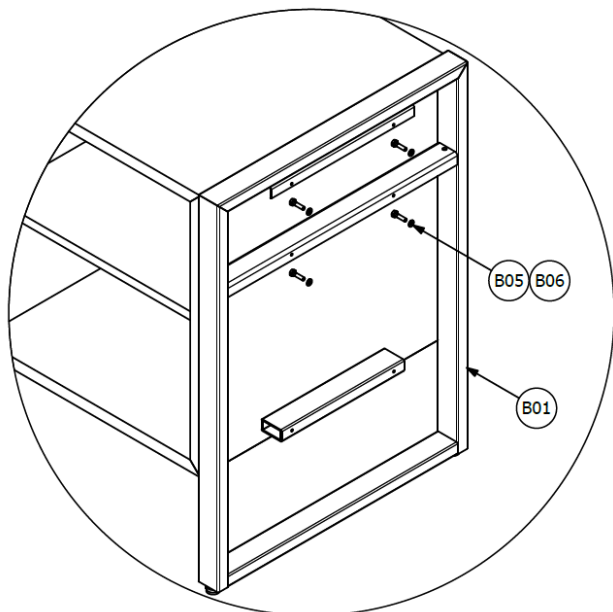

FIG 07:
2. Prepare Legs (B01) for assembly to End Cases (A01\A03), installing Hex Bolt (B05) with Lock Washer (B06) into threaded holes on other side of each Leg. See Figure 07.